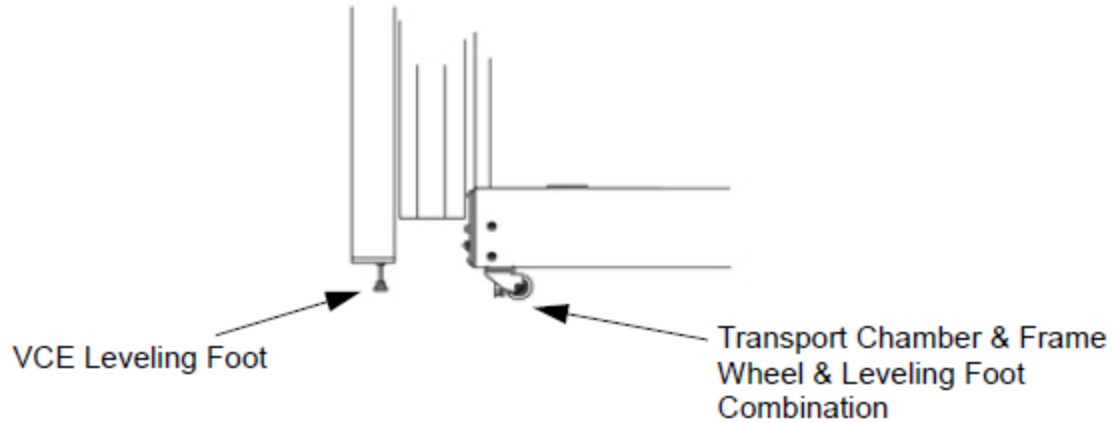

Figure 3-6: Lowering the VCE Leveling Feet
8.	Lower the 2 VCE feet to the floor. Hand tighten each foot and then tighten each one further with a quarter turn with a wrench. Snug each foot to the floor, but do not over constrain. Refer to Figure 3-6 .